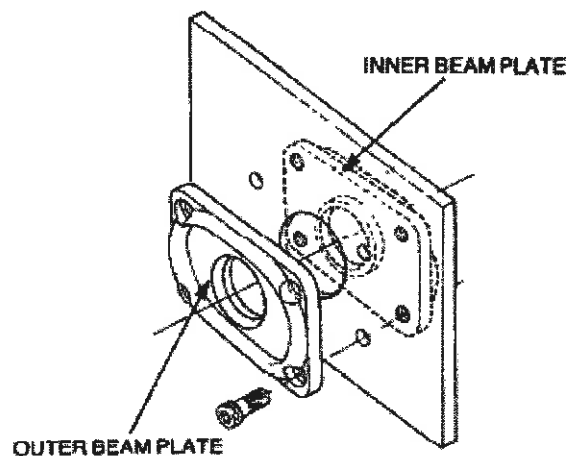

Figure 48 Draw Beam and Beam Plates
- a. Install the inner and outer beam plates (Figure 48) onto the draw beam.